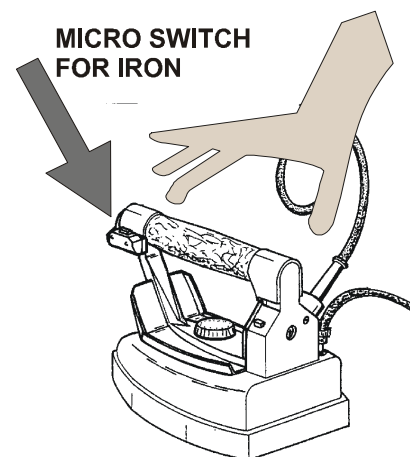

Fig. 6
4. Wait for the boiler lamp to switch off (fig. 2 A). Seize the iron by cork handle and press red button 3 or 4 times (fig. 6), so that steam comes out. It is important to make sure it is a saturated steam (by pressing the micro switch with the iron pointed downwards). You can adjust steam flux by turning the hand-wheel placed on the solenoid valve (fig. 3). Now everything is ready for ironing. During ironing operation, the boiler lamp switches on and off (fig. 2 A).